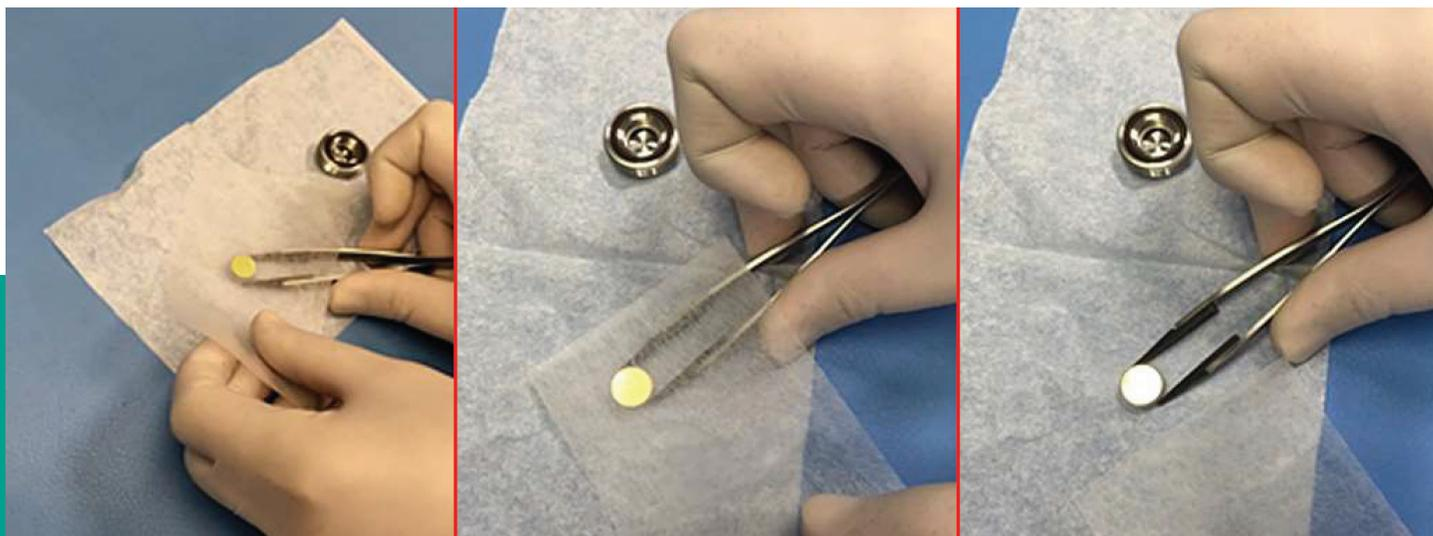

Figure 57: Cleaning a contaminated mirror
12. Place the wet lens tissue on top of the mirror and drag it horizontally across the surface of the mirror, while holding it on with a pair of plastic-tipped tweezers (see *Figure 57* below). Ensure that minimal liquid residue or streaks are left behind on the mirror surface.